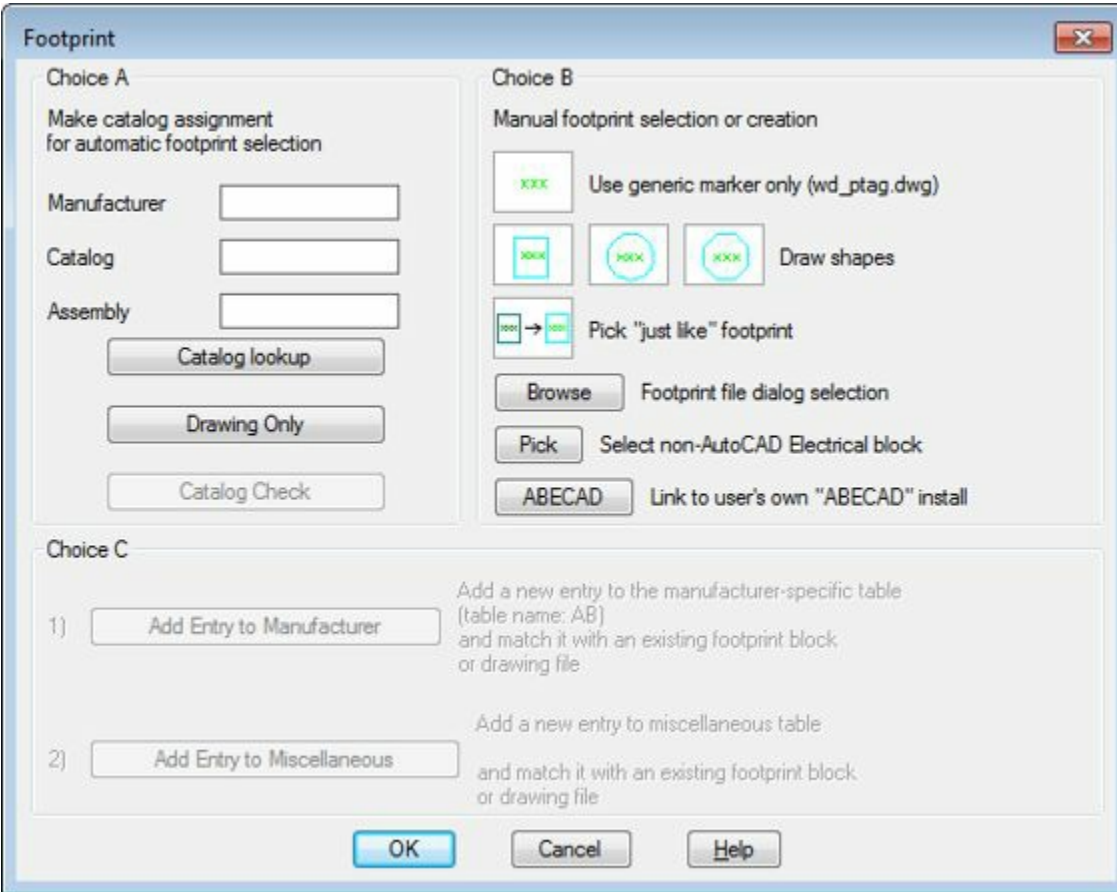

Figure-7. Footprint dialog box
- Click on the desired symbol from the dialog box (**Push Button NC** in our case). The **Footprint** dialog box will be displayed; refer to Figure-7.